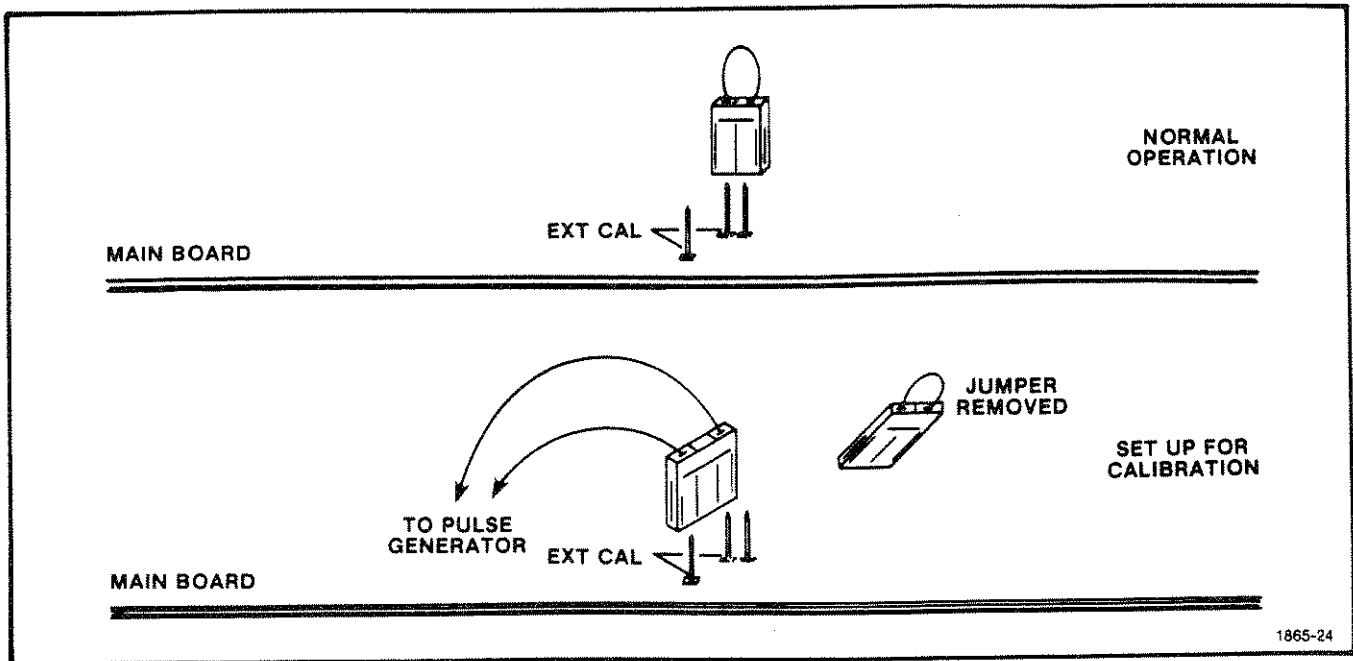

Fig. 4-8. External Calibration connection.
d. Connect the  $-$  OUTPUT from the PG 501 to the EXT CAL terminals on the 1503 Main Board (see Fig. 4-8).